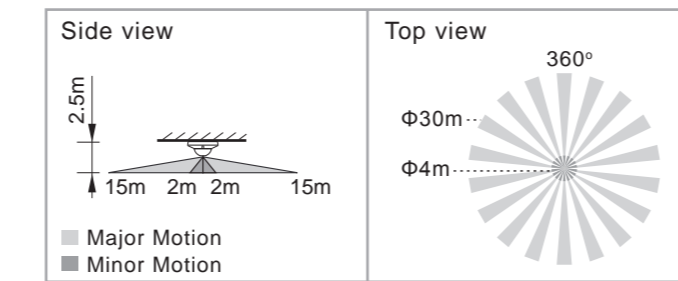

FIG.2
- 3.1.1 OS-464Pi can be installed at the height of 2 - 3m, it's recommended to install it at the height of 2.5m to gain the optimal detection pattern, the detection range can reach up to the diameter of 30m and 360° detection angle (See FIG.2).